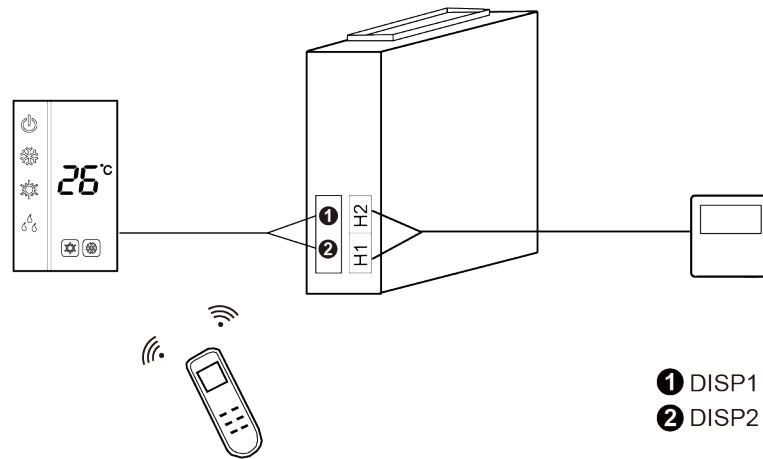

Fig.5.4.3
- 3) Wired controller and receiving light board can be installed at the same time. When operating through a remote controller, both wired controller and the receiving light board can receive the signals, as shown in Fig.5.4.3.